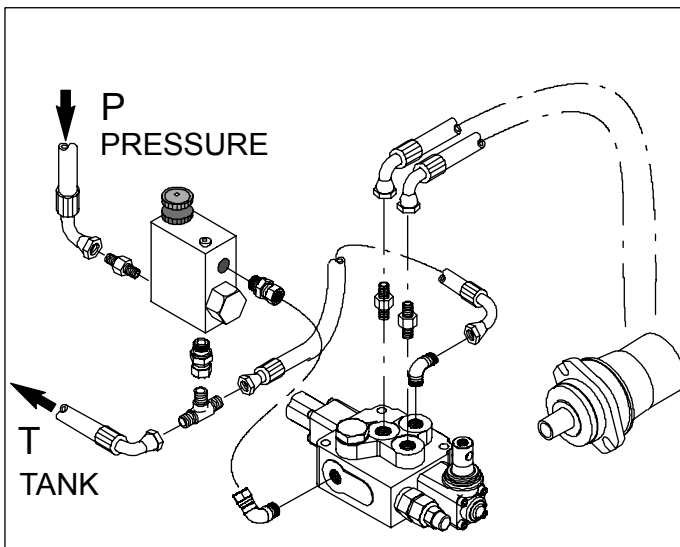

Fig 4b. Hydraulics connection
5. Attach the return hose either to the free return connection or directly to the tank. An oil filter is recommended in the return line. See Fig 4b.